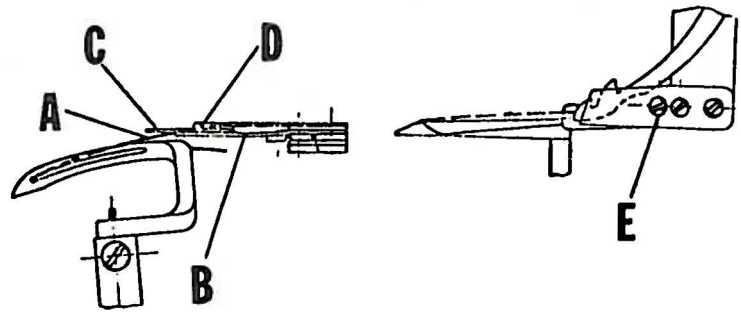

Fig. 22
The looper thread (A, Fig. 22) must be clamped between the plate spring (B) and lower knife (C) after being severed by the upper knife (D). Tension on the looper thread retaining plate spring can be adjusted by turning the tension regulating screw (E).